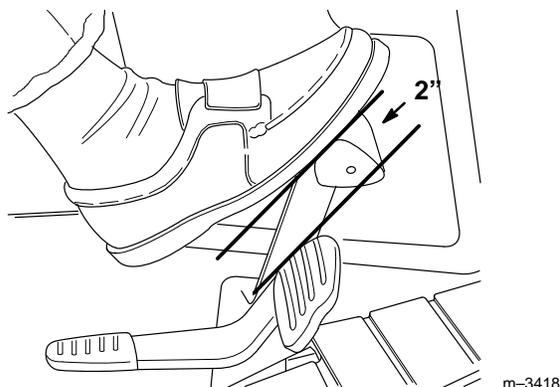

Figure 38
3. Depress the brake pedal. There should be 2” (51 mm) of free travel (Fig. 38) before the brake begins to engage.